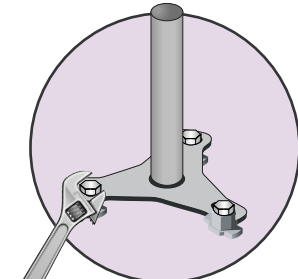

Fig 6.
9. Insert the bolts over the baseplate into the top of the anchors, and tighten. (Fig 6)